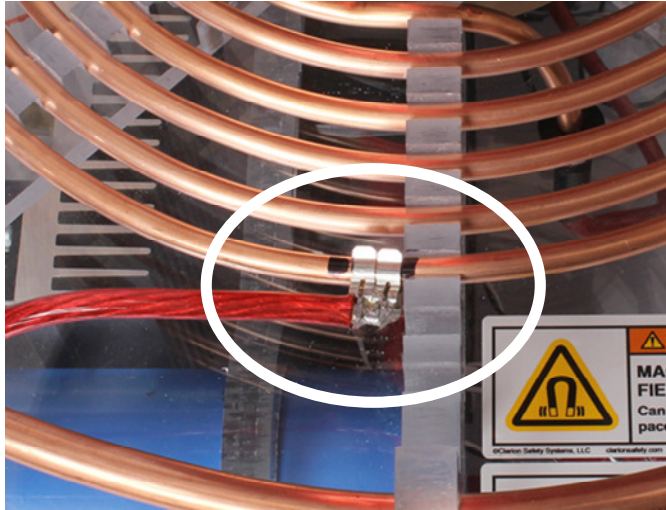

Figure 12 – Primary connector disconnection
- 4. Disconnect the primary connector as shown below in Figure 12. This will ensure that the output of the Tesla Coil is completely disabled.
- 6. Visually verify that the primary connector as shown above in Figure 12 is disconnected.